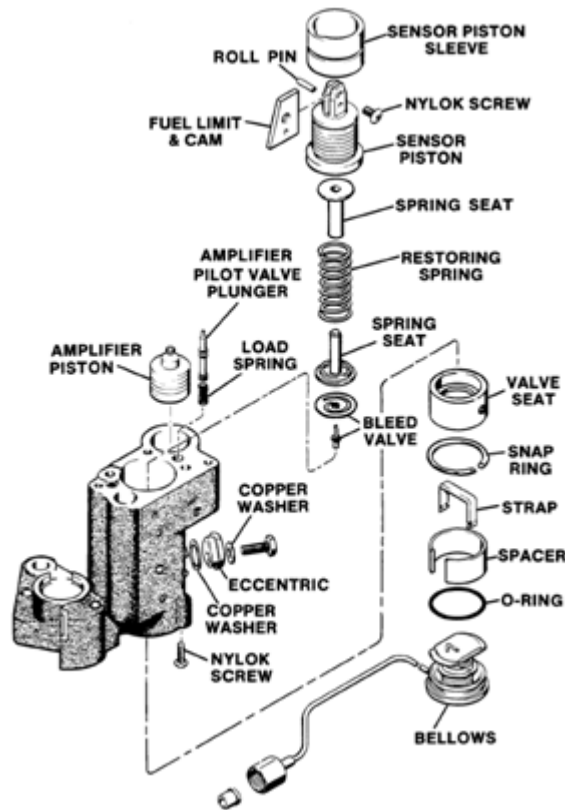

Figure 5-63. Fuel Limiter Sensor and Bellows
- Insert bleed valve, spring seat, restoring-spring seat, sensor piston, and sleeve (Figure 5-63).